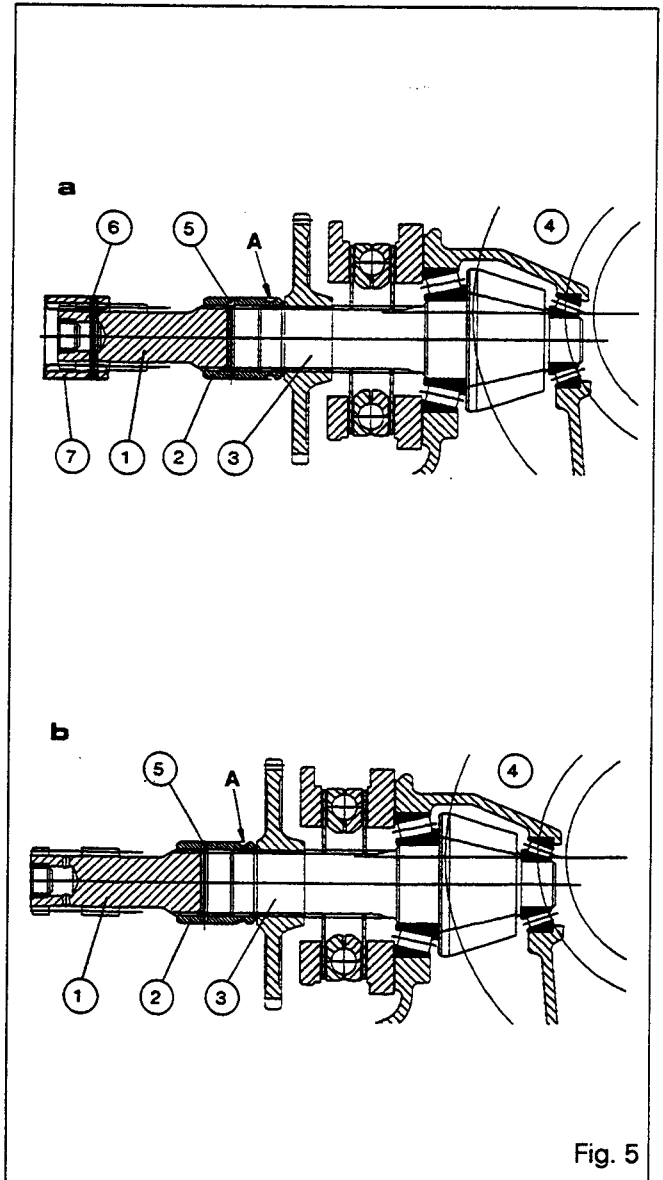

Fig. 5
**Note: Groove A in the sleeve (2) must be directed towards the differential ring gear (4) (Fig. 5).**